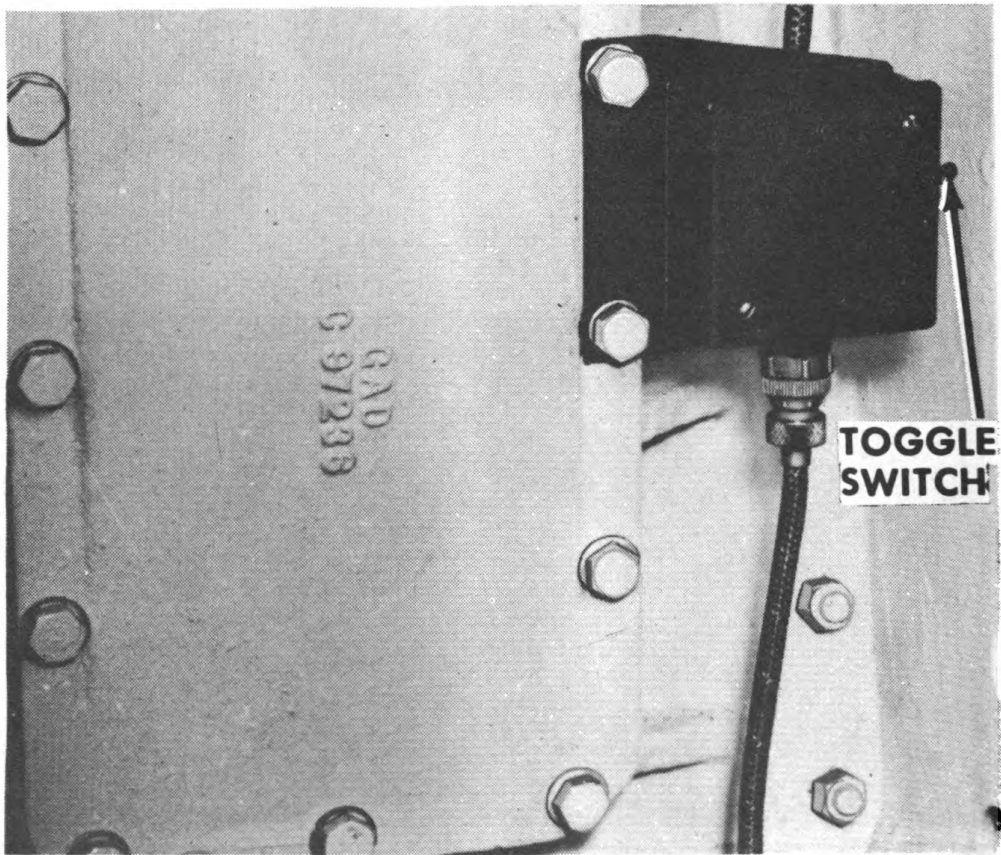

Fig. 39. Switch fuse box installed on hull.
(2) Mount switch fuse box over the two holes. Replace and tighten the two bolts with a wrench (fig. 39).